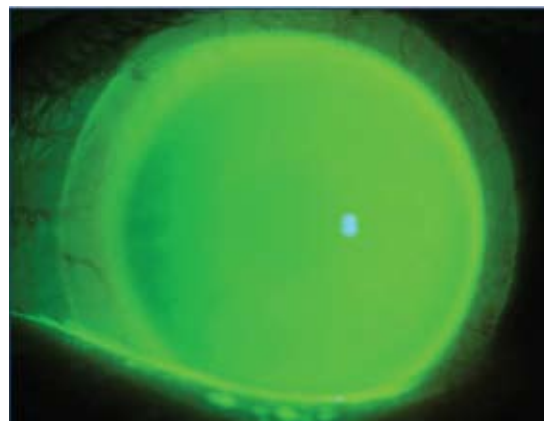

Figure 3 Ideal ICD fit showing central and limbal clearance and alignment at the sclera
- Scleral landing zone (SLZ): the lens should land with all its weight and pressure on the sclera alone (Figure 3).